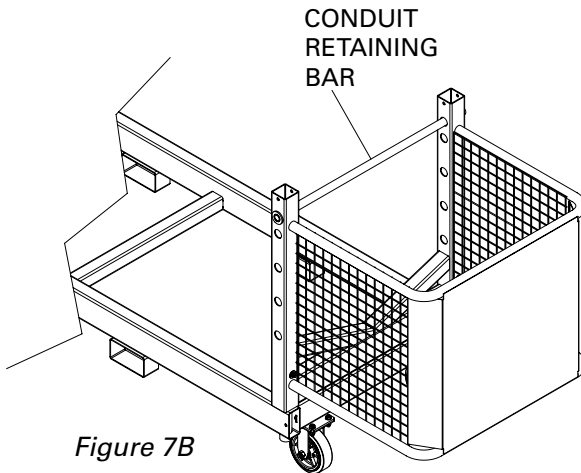

Figure 7B
2. Remove the conduit retaining bar from both of the extension baskets. (See Figure 7B).